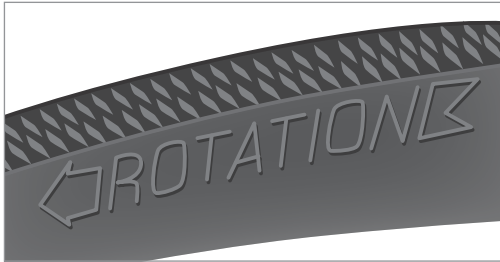

Figure 1
- Check for tread direction markings on the tire sidewall. Orient tread direction on the rim so the tire will rotate in the proper direction when installed on the bike (Fig.1).